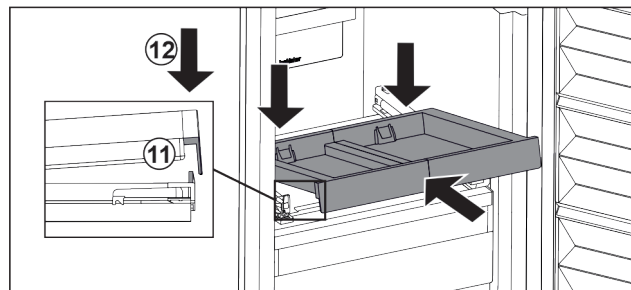

Fig. 86
- ▶ Slide it in at an angle. Make sure that the stop is behind the lug on both sides. Fig. 86 (11)
- ▶ Lower the pull-out board at the front. Fig. 86 (12)